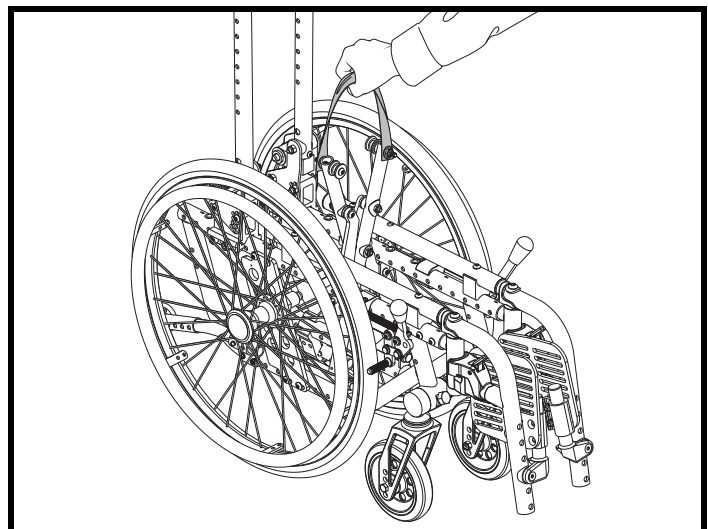

Figure 8. Folding the Litestream Junior
3. Pull up on the strap until both wheels close together. See figure 8.